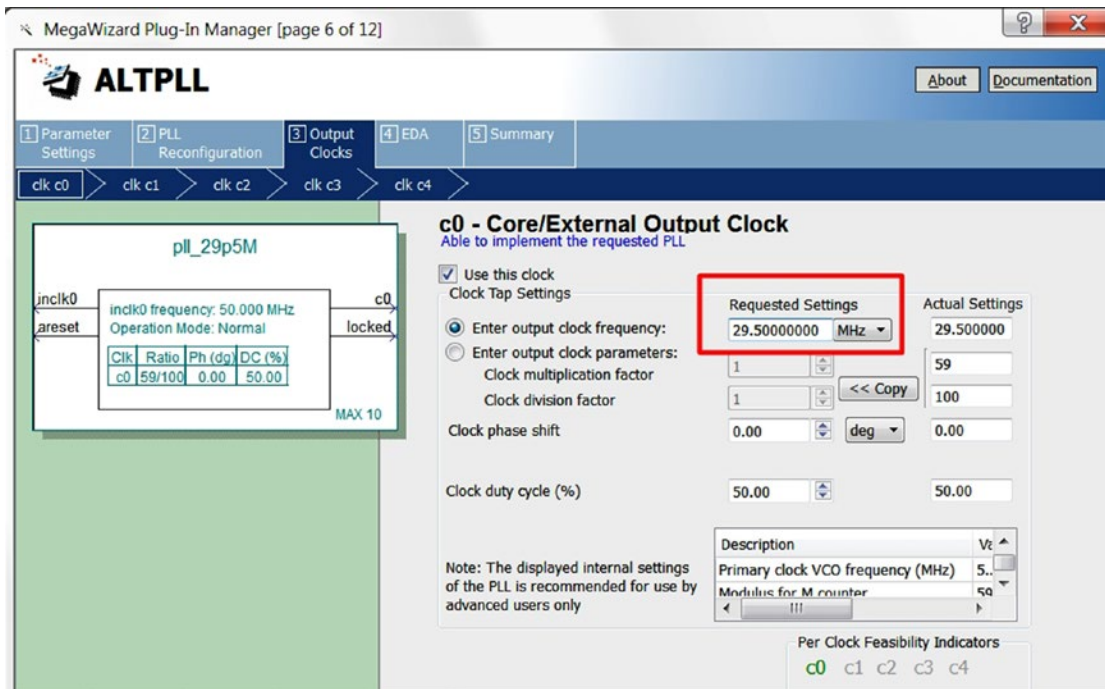

Figure 13-21. Enter output clock frequency equal to 29.5 MHz
3. In the third tab (clk c0), enter the output clock frequency request to 29.5 MHz (Figure 13-21).